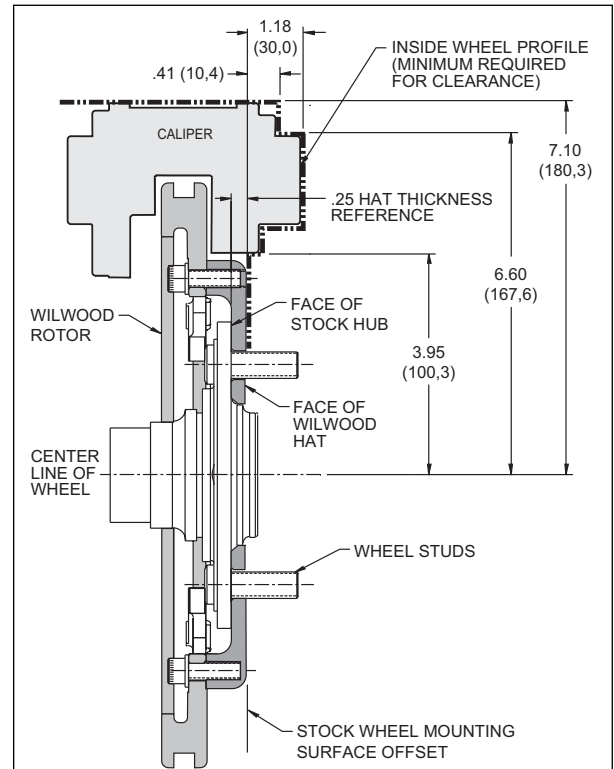

Figure 2. Wheel Clearance Diagram
Before any tear-down or disassembly begins, review the wheel clearance diagram (Figure 2, page 3) to verify that there is adequate clearance with the wheels you will be using with this installation.
- Verify your wheel clearance using Figure 2.